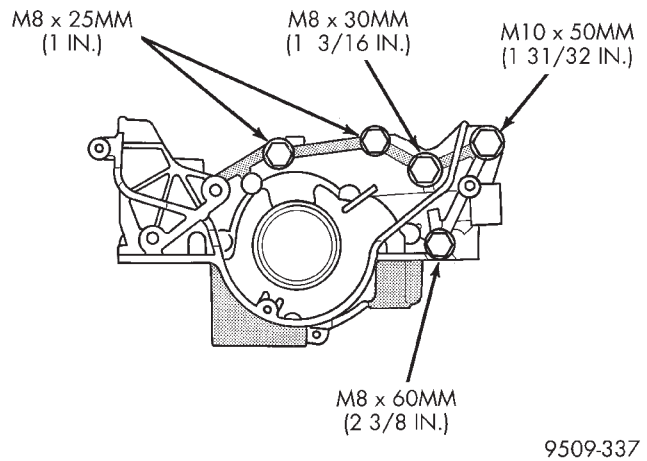

Fig. 85 Oil Pump Assembly
- (1) Remove accessory drive belts. Refer to Group 7, Cooling System for procedure.
- (2) Refer to procedures in this section for removing the following components:
- (3) Remove crankshaft sprocket and key.
- (4) Remove oil pickup tube.
- (5) Remove bolts that attach oil pump to block (Fig. 85).
- (4) Install oil pump slowly onto crankshaft until seated to engine block. Tighten fasteners to M8 bolts 14 N-m (10 ft. lbs.) M10 bolts 41 N-m (30 ft. lbs.). See (Fig. 85) for bolt location and length.